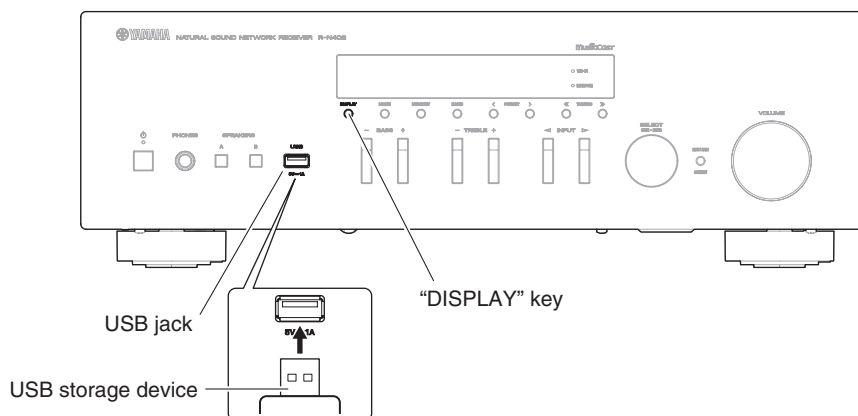

Fig.1
1. Insert the USB storage device to the USB jack. (Fig. 1)
2. While pressing the "DISPLAY" key, connect the power cable to the AC outlet. (Fig. 1)